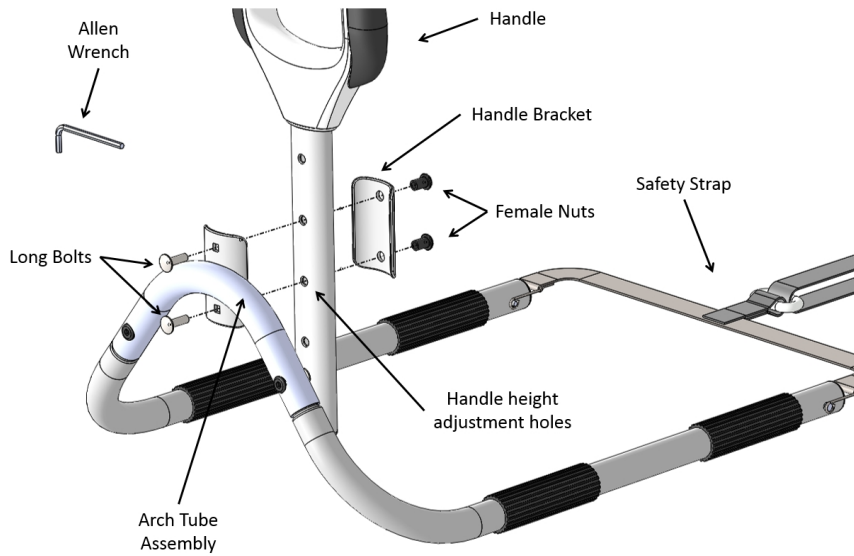

FIGURE 4
4. Determining the “Handle height adjustment holes” to use. Attach the Handle onto the Arch Tube with the Handle Bracket, Long Bolts, and Female Nuts using the included Allen Wrench as seen in Figure 4.